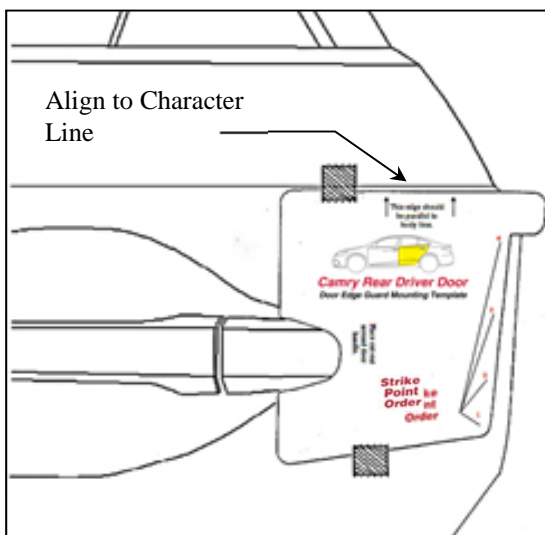

Fig. 1-3
(2) Select the rear door template and fit the notch around the door handle. Adjust it as needed to ensure it is aligned to the character line as noted on the template. If needed, tape it into place using painter’s masking tape (Fig 1-3).